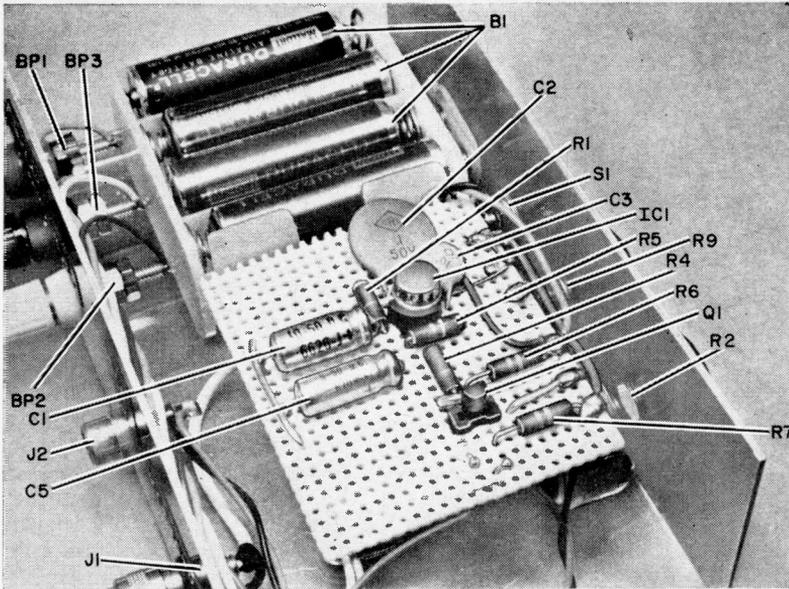

Fig. 2. The author constructed his Voxor on a section of perf board, although any other type of construction may be used. Sockets were used for both IC1 and Q1.
**Construction.** The circuit of the Voxor (see Fig. 1) can be built on either perf board or on a printed circuit board. A possible layout is shown in Fig. 2. Components not shown in the figure are below the perf board. To make wiring easier, it is suggested that a 10-pin integrated circuit socket be used for *IC1*. Once the board is complete, it can be mounted on standoffs and connected to the external components.